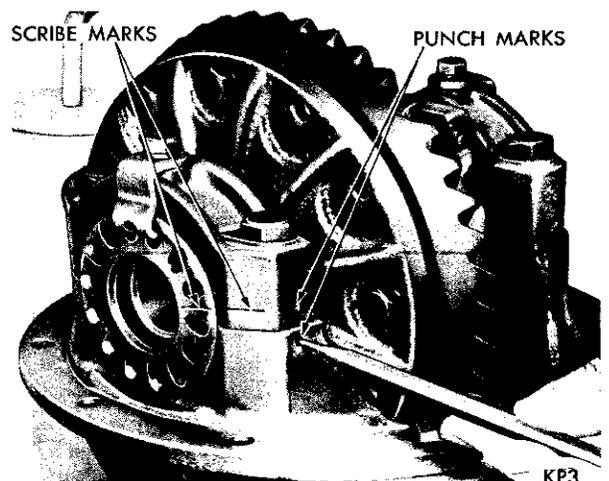

Fig. 17—Marking Bearing Caps and Adjusters
(5) Install the oil seal puller Tool C-748 by screwing it securely into the pinion oil seal and tighten the puller screw to remove the seal.
(6) While holding one hand over the companion flange end of the carrier, invert the carrier in the stand. The front bearing cone shim pack and bearing spacer (where used) will drop from the carrier.
(7) Apply identifying punch marks on the bearing supports of the differential carrier, differential bearing caps, and bearing adjusters for reassembly purposes (Fig. 17).
(8) Remove each of the differential bearing adjuster lock screws and locks.
(9) With a 3/4 inch socket wrench, loosen the bearing cap bolts (one on each side) and back off the bearing adjusters slightly with spanner wrench Tool C-406A, to remove the differential case bearing preload. Remove the bearing cap bolts, caps and bearing adjusters.
(10) Remove the differential assembly with the bearing cups. Make certain that each bearing cup remains with its respective bearing.
(11) Withdraw the pinion and rear bearing from the carrier.